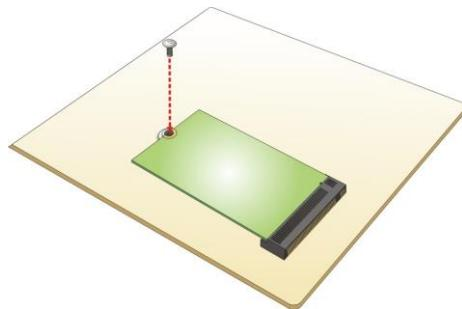

Figure 3-3: Securing the M.2 Module
Step 4: Secure the M.2 module with the previously removed retention screw (**Figure 3-3**)